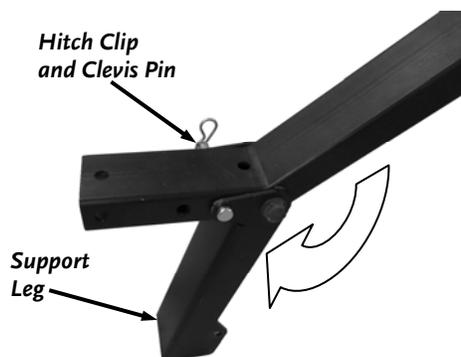

Figure 4
5. Pull the Hitch Clip and Clevis Pin from the Leg and fold it to the down position. Align the holes and secure the Leg with the Clevis Pin and Hitch Clip (**Figure 4**).